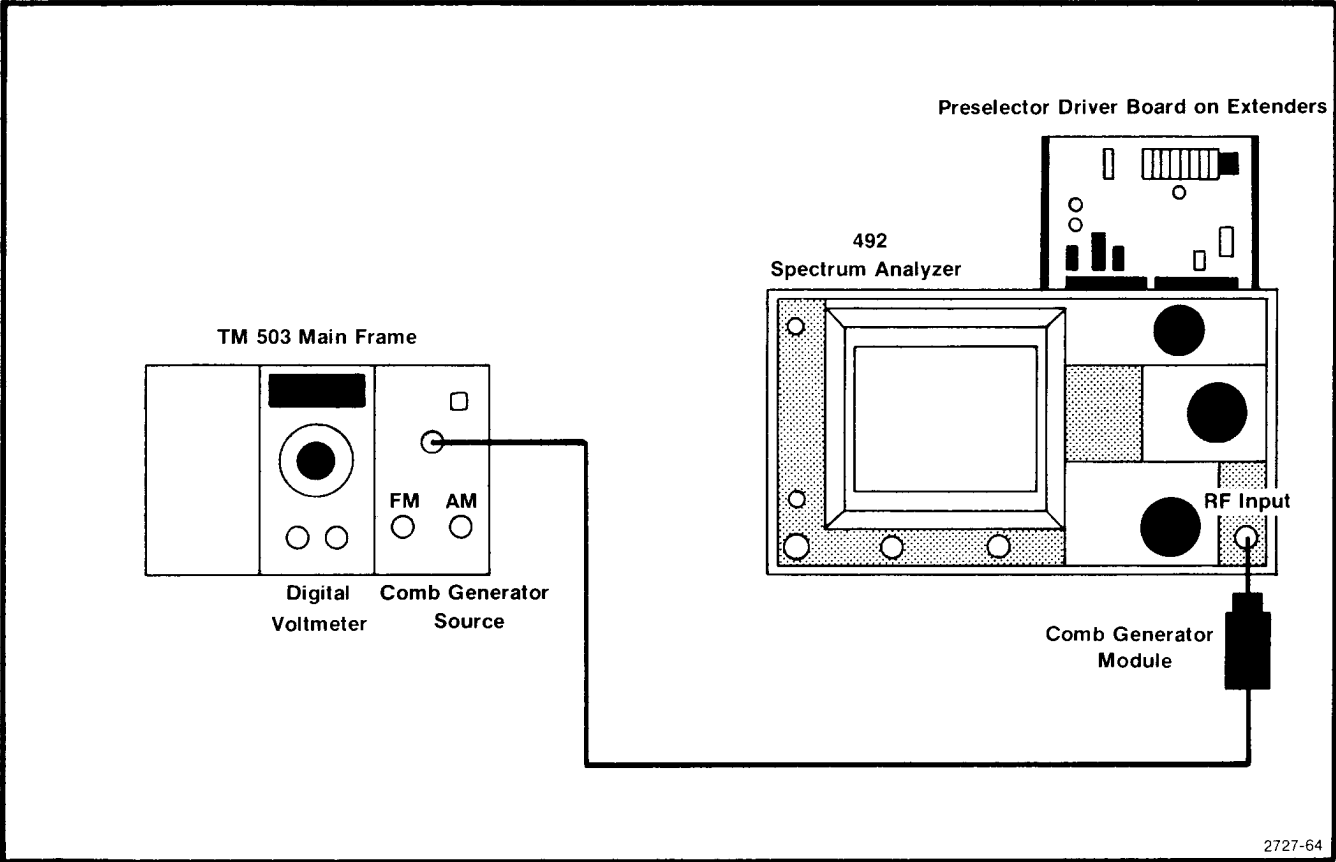

Fig. 3-51. Test equipment setup for calibrating Preselector Driver.
a. Turn POWER off, pull Preselector Driver and install on extender board (Fig. 3-51), then switch POWER on.
g. Remove the Calibrator signal to the RF INPUT and connect the output of the microwave comb generator to the RF INPUT (see Fig. 3-51). Change the REF LEVEL to 0 dBm. Now tune the CENTER FREQUENCY to 5.5 GHz and center the 5.5 GHz comb marker on screen. Press DEGAUSS, then recenter the 5.5 GHz signal.